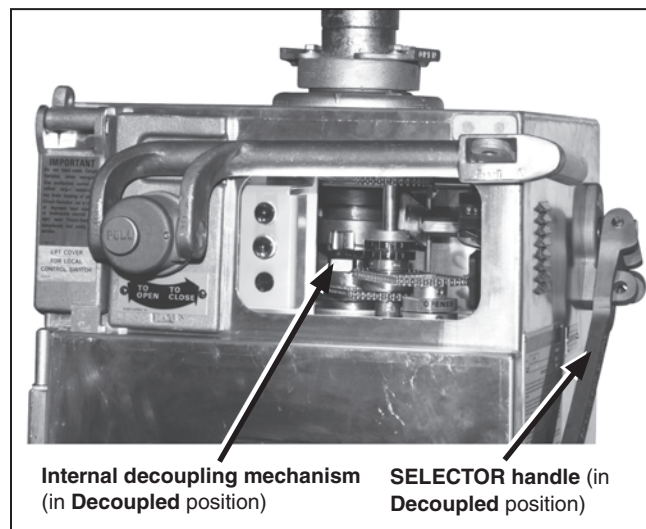

Figure 60. Verify the switch is Decoupled.
- STEP 3.** Look through the observation window and verify the internal decoupling mechanism is in the **Decoupled** position. See Figure 60.